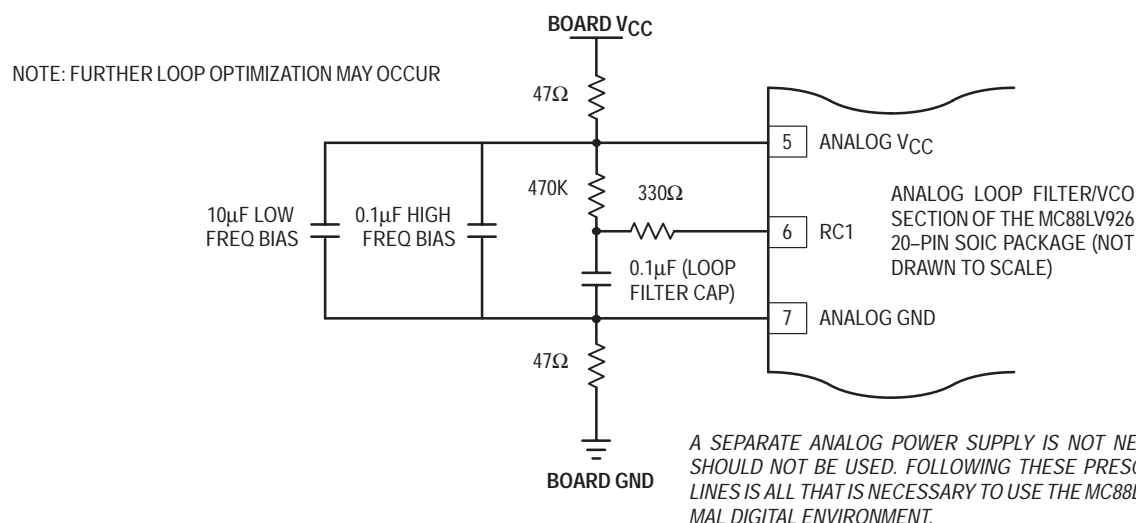

Figure 6. Recommended Loop Filter and Analog Isolation Scheme for the MC88LV926
1. Figure 6. shows a loop filter and analog isolation scheme which will be effective in most applications. The following guidelines should be followed to ensure stable and jitter-free operation:
purpose of the bypass filtering scheme shown in Figure 6. is to give the 88LV926 additional protection from the power supply and ground plane transients that can occur in a high frequency, high speed digital system.
2. In addition to the bypass capacitors used in the analog filter of Figure 6., there should be a 0.1 μ F bypass capacitor between each of the other (digital) four V_{CC} pins and the board ground plane. This will reduce output switching noise caused by the 88LV926 outputs, in addition to reducing potential for noise in the 'analog' section of the chip. These bypass capacitors should also be tied as close to the 88LV926 package as possible.